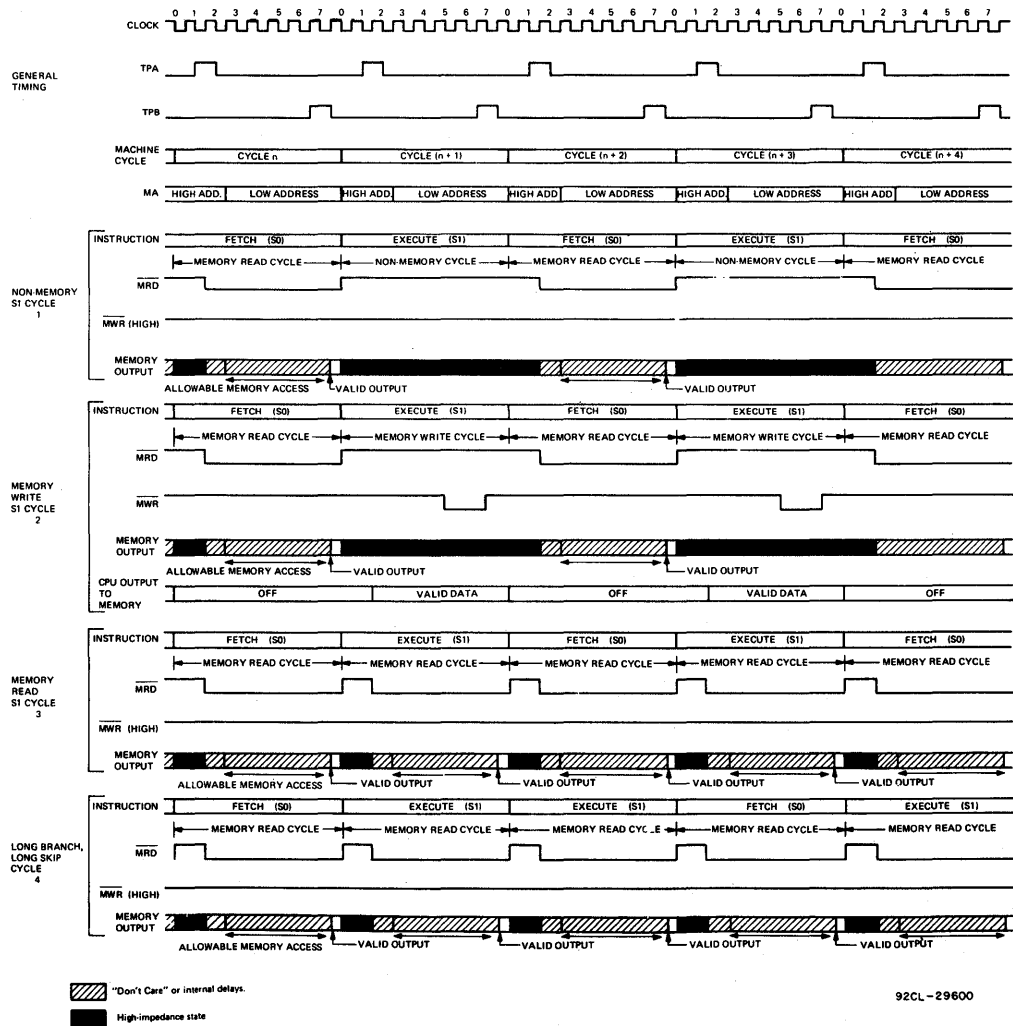

Fig. 16 - Timing diagram for machine cycle types Nos. 1 through 4.
- G. Numbers refer to machine cycles types – refer to timing diagrams, Figs. 16 through 20.